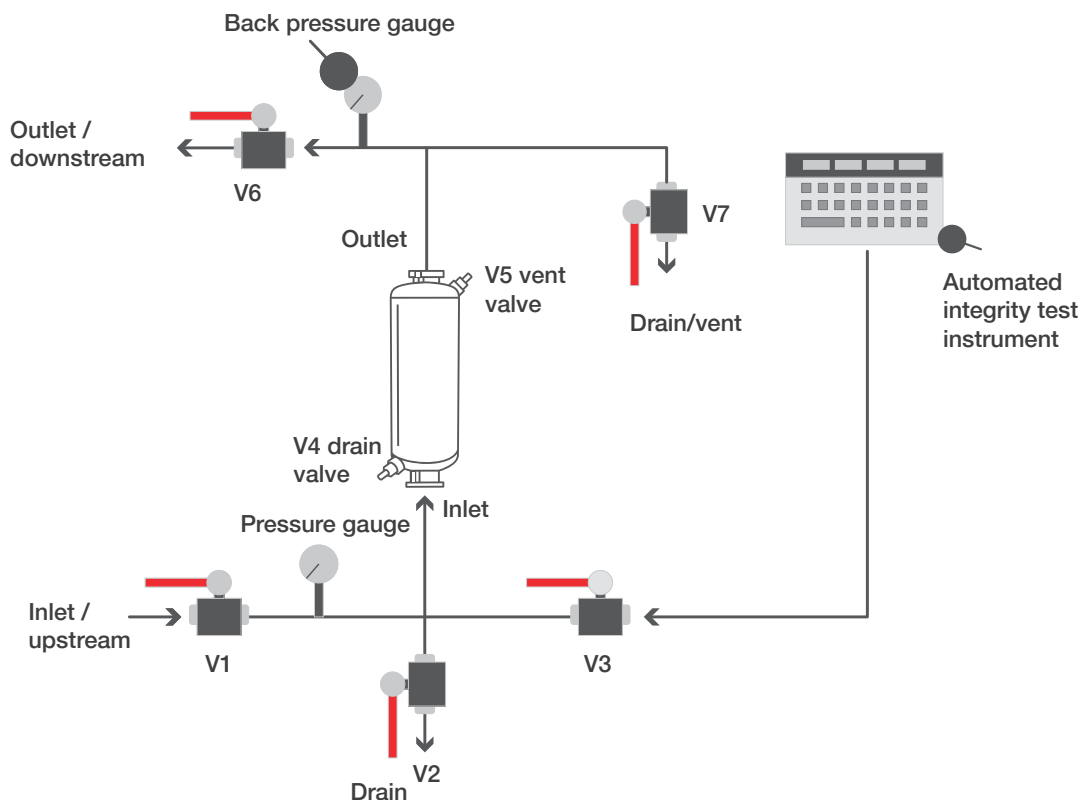

Figure 1. Capsule connection and flow schematic
Refer to Figure 1 for the set-up configuration and valve descriptions.
1. Assemble the system as shown in Figure 1 with all valves in the closed position.